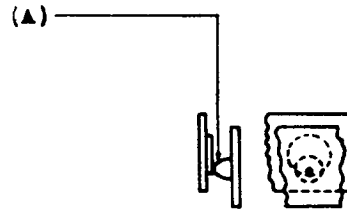

Fig. 4
*2.09 Contact Alignment - Fig. 4 (A) - The point of contact shall fall wholly within the boundary of the opposing contact. Gauge by eye.